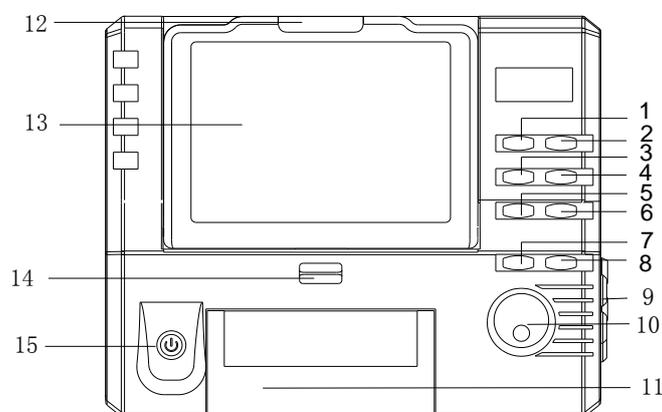

Fig. 3-1 Front View
The front panel of the Monitor is shown in Fig. 3-1. It has a friendly interface, and all the operations are available through the buttons and encoder disk on the front panel (①~⑪ shown in Fig. 3-1). For more information, see 3.3 Operation and Functions of Keys.